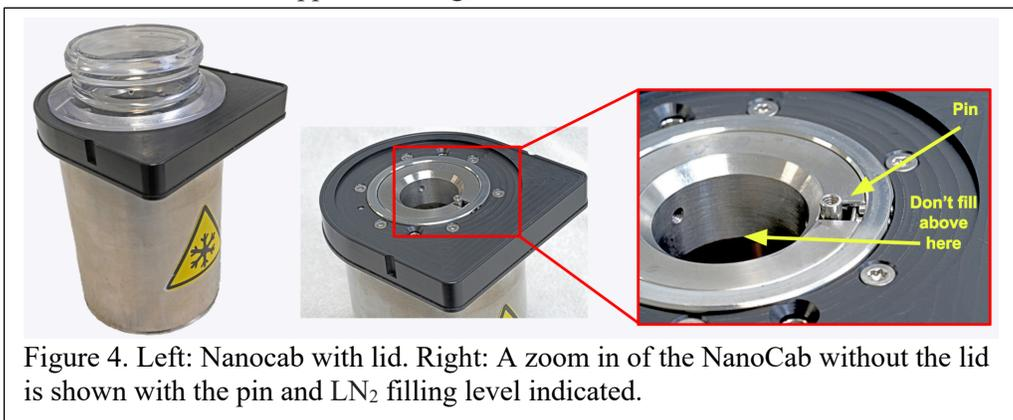

Figure 4. Left: Nanocab with lid. Right: A zoom in of the NanoCab without the lid is shown with the pin and LN₂ filling level indicated.
- 4.2.1. Retrieve the dry NanoCab, with lid, for the microscope you'd like to load (fig 4).
- 4.2.2.2. Be mindful not to overfill above the bottom of silver ring (fig 4).
- 4.2.4. Verify the cassette lock pin (fig 4) is not stuck by pulling upward on the pin (it is spring loaded).
4.3.4. If docking button is not available, remove the NanoCab and check cassette lock pin (fig 4).
- 4.8.4. If docking button is not available, remove the NanoCab and check cassette lock pin (fig 4). If there is an error (cassette is not docked or undocked) often the pin needs adjustment. Notify staff and use a different NanoCab should solve the issue while the defective one is warmed up.